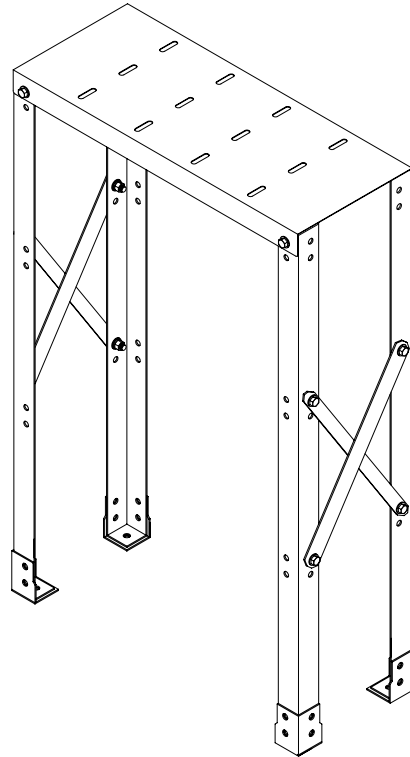

Figure 8.1
- Mark locations for anchor bolts. It may be helpful to assemble the corner frames, top cover and side cross braces to use as a template to mark the locations of the anchor bolts. See Figure 8.1 and Section 8.3 for assembly instructions.